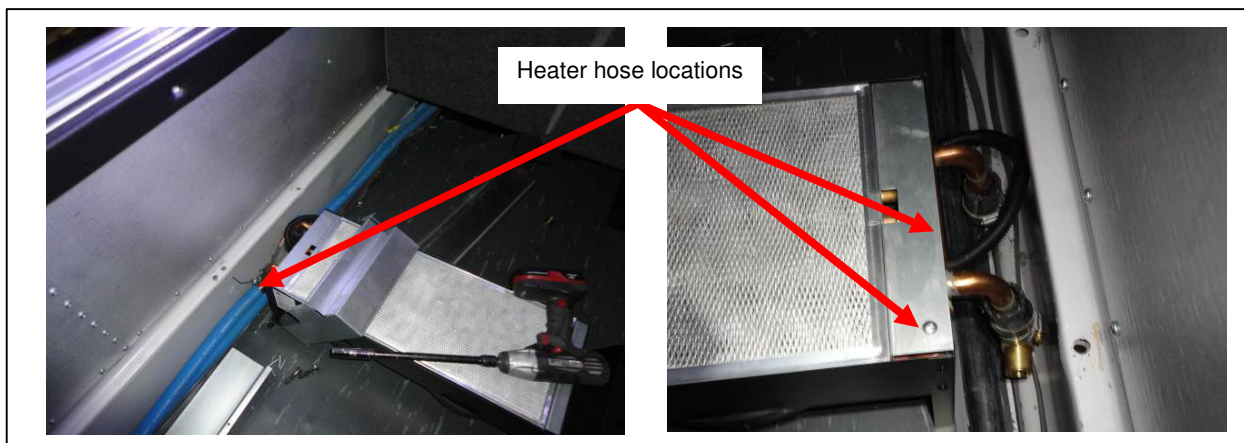

Figure 6, Heater Hose Locations
- 10) Remove the hoses that connect directly to the heater's inlet and outlet ports. Measure and cut replacements to install. Connect the new hoses (soap and water make the process easier). See **Figure 6**.